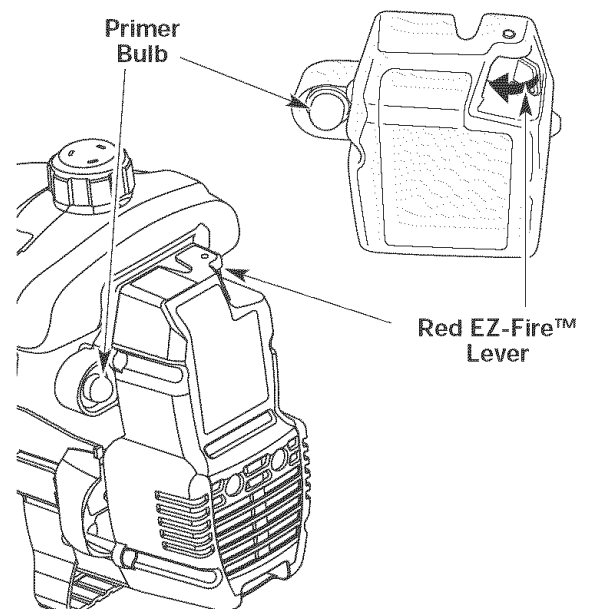

Fig. 7
3. Fully press and release the primer bulb 10 times, slowly. Some amount of **fuel should be visible in the primer bulb** and fuel lines (Fig. 7). If you can't see fuel in the bulb, press and release the bulb as many times as it takes before you can see fuel in it.
4. Push the red EZ-Fire™ Lever towards the primer bulb until it clicks and locks into place (Fig. 7).